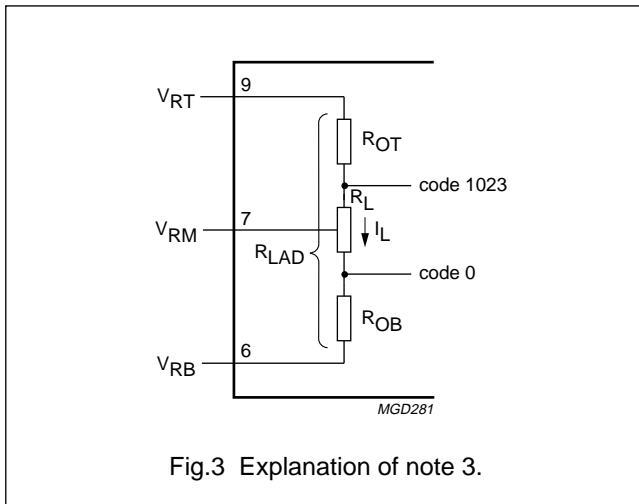

Fig.3 Explanation of note 3.
- In order to ensure the optimum linearity performance of such converter architecture the lower and upper extremities of the converter reference resistor ladder (corresponding to output codes 0 and 1023 respectively) are connected to pins  $V_{\text{RB}}$  and  $V_{\text{RT}}$  via offset resistors  $R_{\text{OB}}$  and  $R_{\text{OT}}$  as shown in Fig.3.